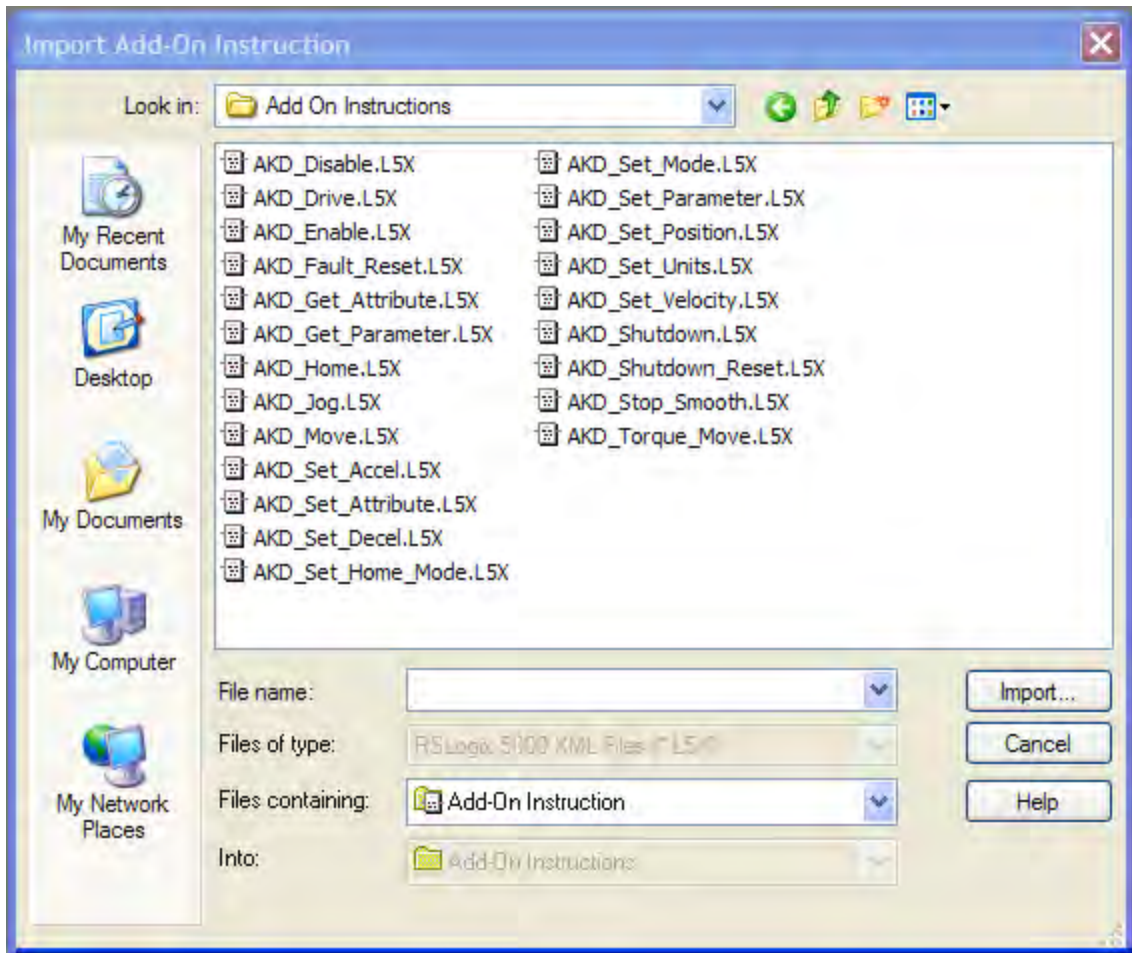

Figure 4-10: Selecting an AIO
6. Browse to the location of the AKD Add On Instruction library and select the desired AOI then click "Import..." (Figure 4-10: Selecting an AOI)